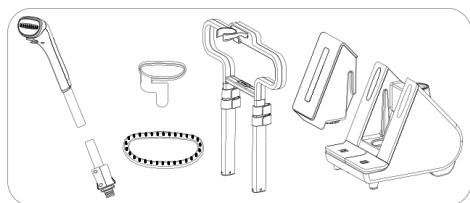

Fig. 1
- Appliance knock down assembly picture, Fig.1